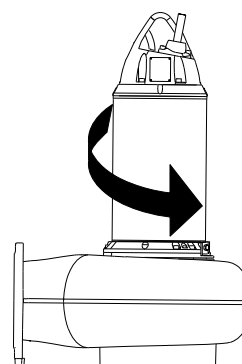

Fig. 23 Jerk direction
2. Start and stop the pump while observing the movement (jerk) of the pump. If connected correctly, the impeller will rotate clockwise, that is the pump will jerk counterclockwise. See fig. 23.